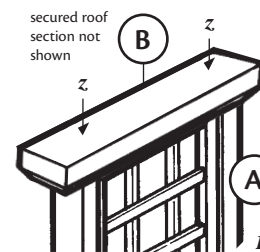

Fig.4
6. Lie the roof section on its side and attach the side section to it using screws (z) into the top of the side section posts (Fig.4).